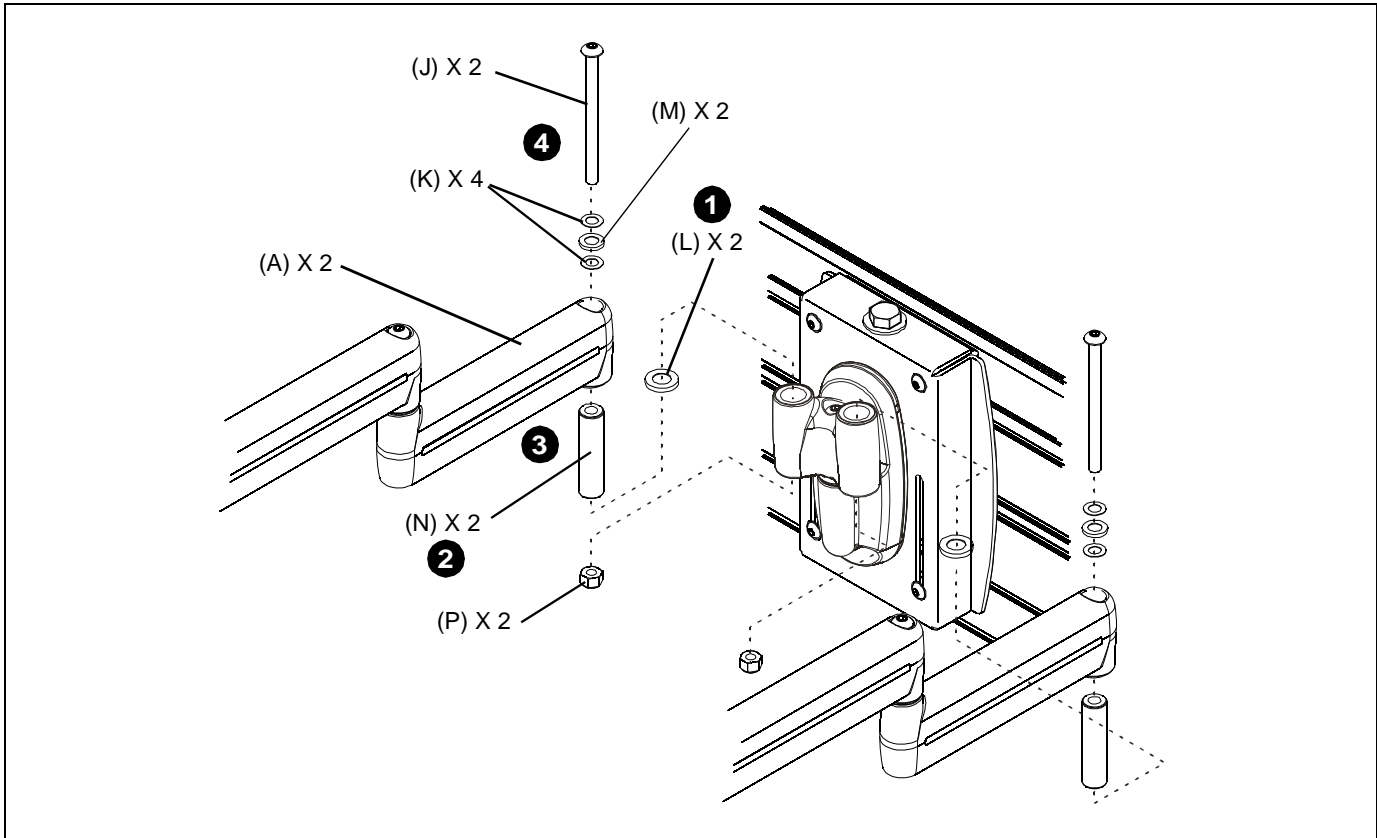

Figure 4
1. Insert pivot pin (N) into Y-connector upper bore.
2. Install large UHMW spacer (L). (See Figure 4)
3. Insert arm assembly (A) on pivot pin (N).
4. While holding nut (P) in lower bore of Y-connector, insert 5/16-18 X 4" button head cap screw (J) through washers (K), UHMW washer (M), arm assembly (A), spacer (L) and Y-connector, into nut (P). (See Figure 4)
5. Loosely install screw (J) using 3/16" hex key (F).
6. Repeat Steps 1. through 5. for second mount arm assembly (A).